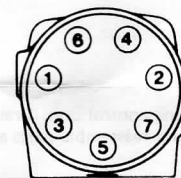

Figure 9
- 35 Install 7 dry cap screws. Pretighten screws to 150 inch pounds, then torque screws to 275 inch pounds in sequence, see Fig. 9.